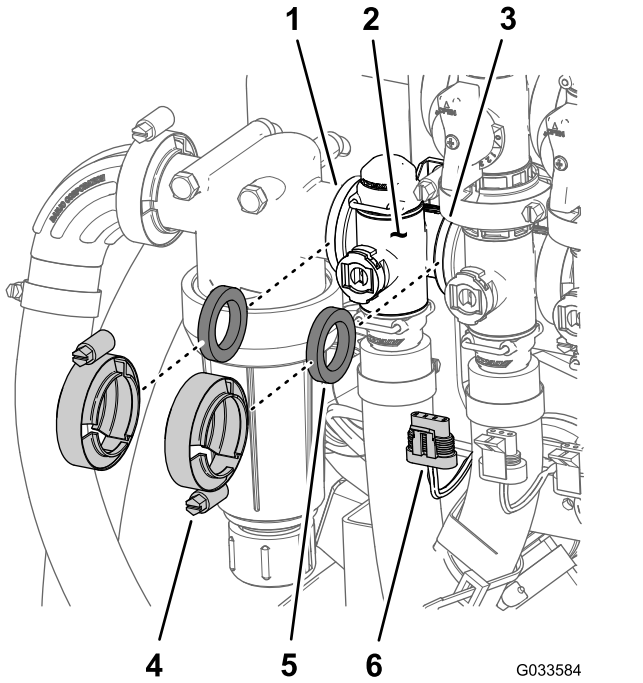

Figure 110
1. Remove 2 flange clamps and 2 gaskets that secure the manifold for the rate control valve (Figure 110) to the pressure filter and agitation valve.